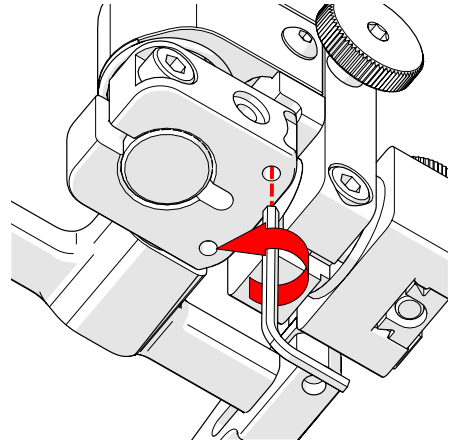

Fig. 62 - Lower 90° stop post
7. Locate the recessed M3 screw (stop post) on the bottom of the probe holder. Unscrew the stop post using a 1.5 mm hex wrench until it has cleared all obstructions. Do not remove the stop post (Fig. 62).